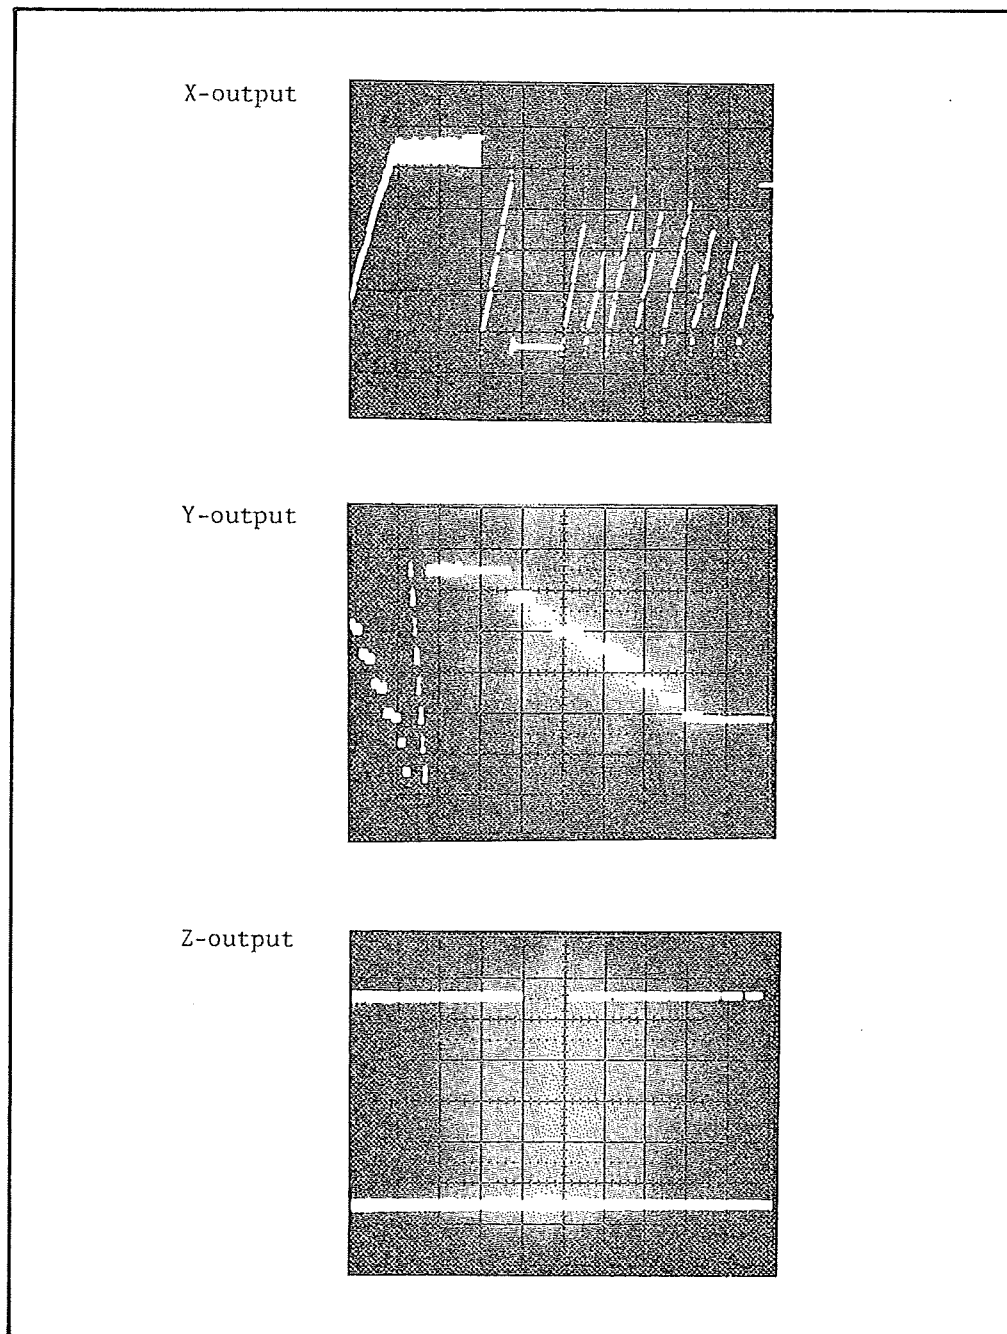

Figure 4-15. Scope Displays of X-Y-Z Output (Example).
5. Verify that 0V-1V signal is observed as shown in Figure 4-15.
6. Perform steps 1 through 5 for EXTERNAL CRT Y-output and Z-output. Verify that the scope displays are observed as shown in Figure 4-15.